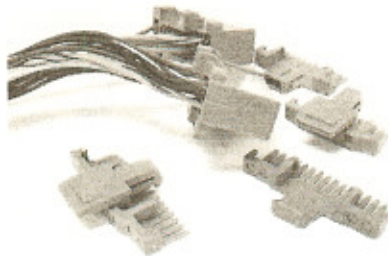
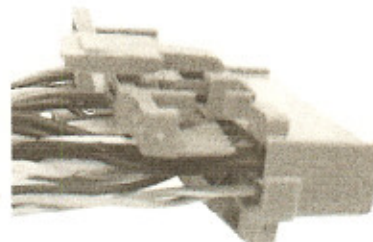
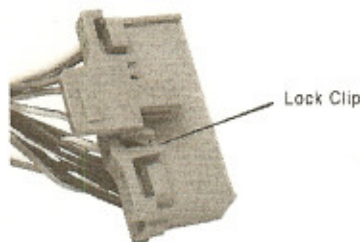

Figure 4
Figure 5
Figure 6
2. In order to minimize the hole-size required to feed the harness through, we have shipped the harness without installing the locks for the connectors. There are (3) blue and (1) gray lock (See Figure 4). Carefully insert the locks one at a time, paying close attention to their proper alignment (See Figure 5). When the locks have been pushed in completely the lock clips will be engaged and will not pull back out (See Figure 6). Repeat this step for all four locks.